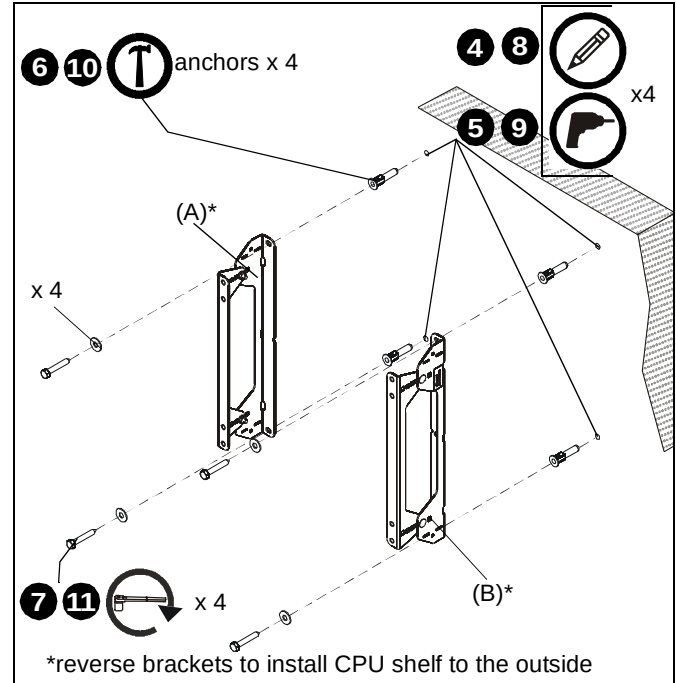

Figure 3
4. Using a level, mark the wall through both upper mounting slots. (See Figure 3)
NOTE: If desired CPU location is off to the side of the display, reverse brackets (A and B) from how they are shown in Figure 3.
8. Mark the attachment points for the lower mounting slots. (See Figure 3)
9. Drill one pilot hole at each marking for lower mounting holes. (See Figure 3)
11. Use two 5/16 x 2-1/2" lag bolts and two 5/16" flat washers to attach the brackets to the wall through the lower mounting holes. (See Figure 3)